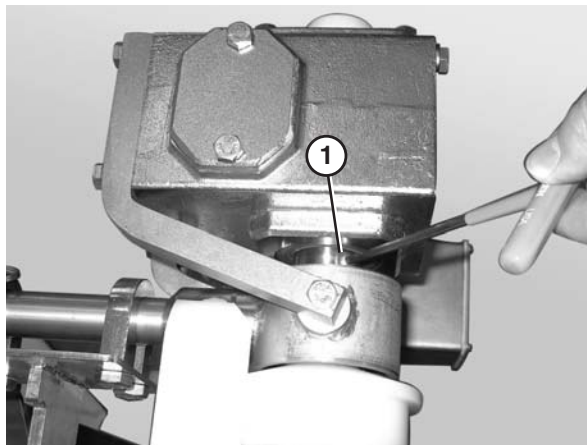

Figure 55
1. Loosen the button head screws (**Figure 55, item 1**) that connect the gearmotor to the drive spindle.